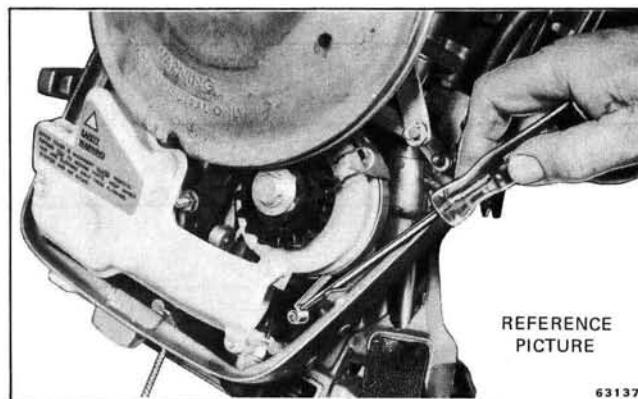

Figure 8-12. Checking for Excessive Spring Tension
7. Pull rope out as far as it will go. With rope fully extended, pull out loop end of starter spring, spring end must be free to extend a minimum of 1/2 inch (12.7 mm) from cup. See Figure 8-12.